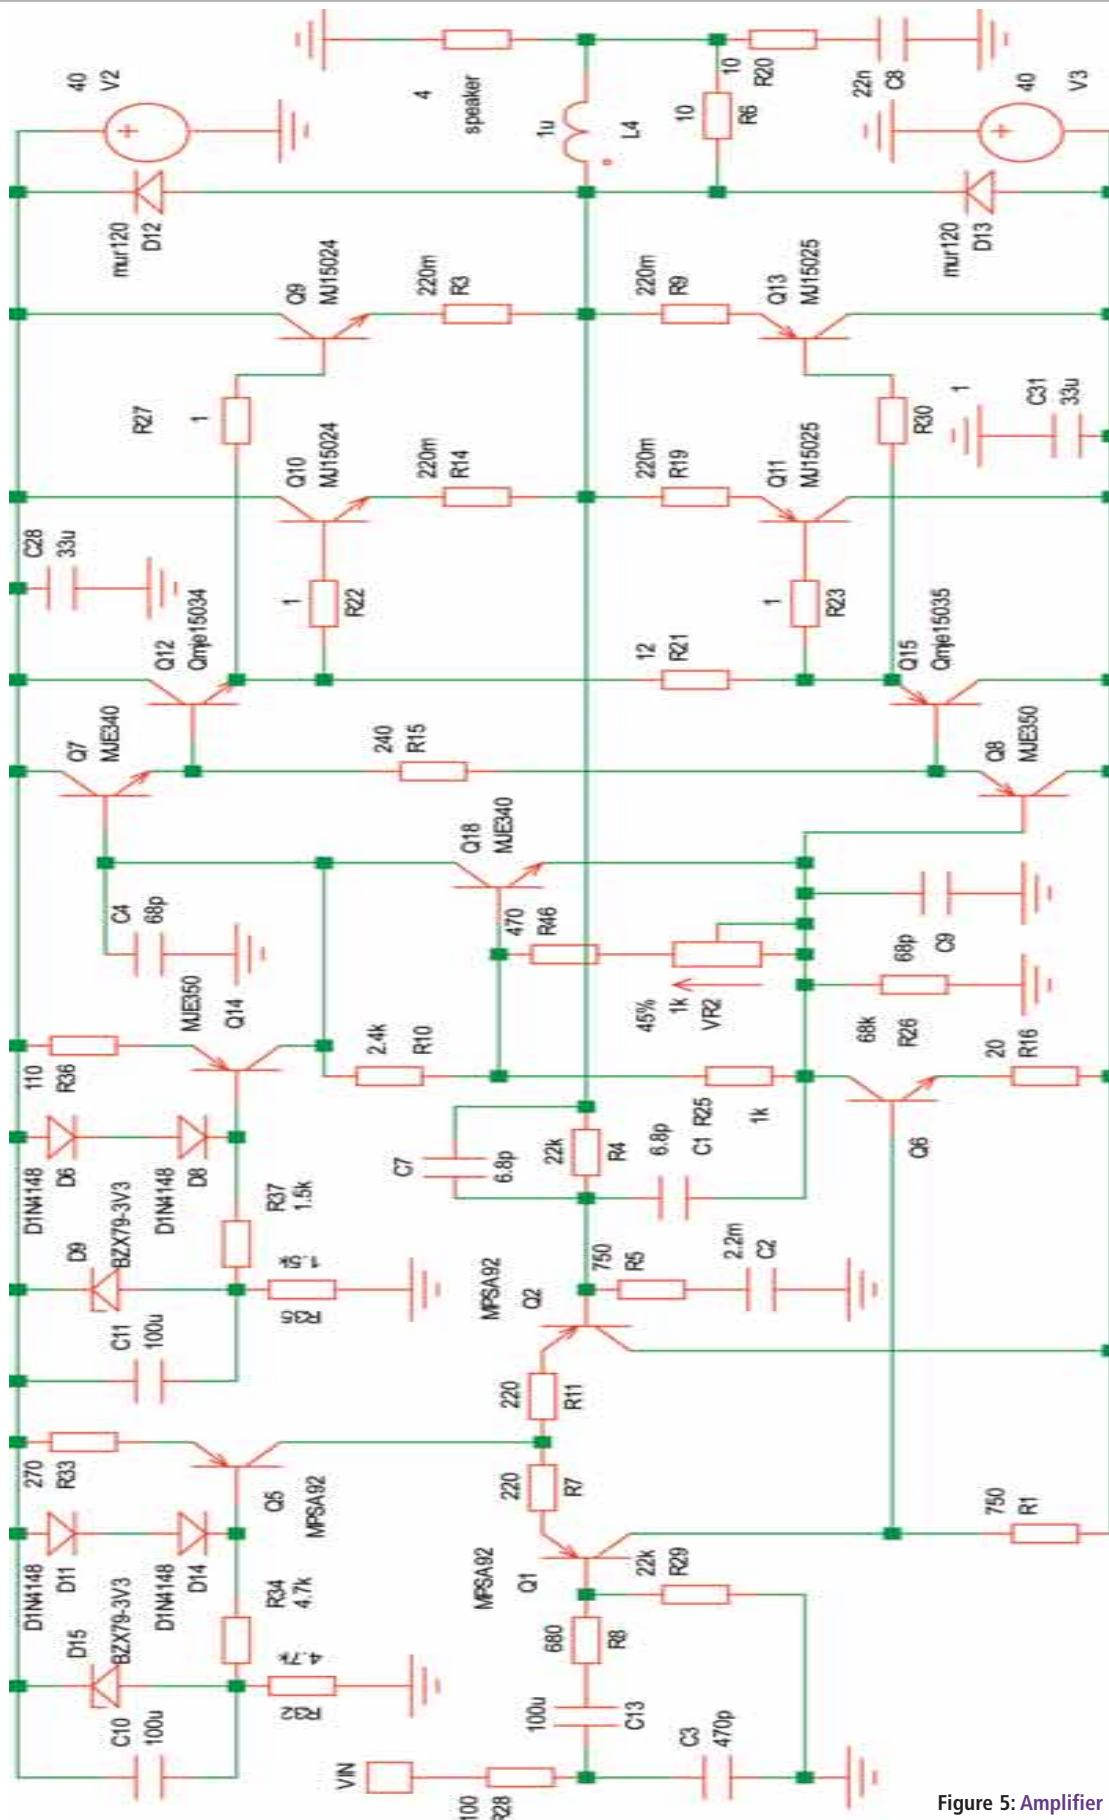
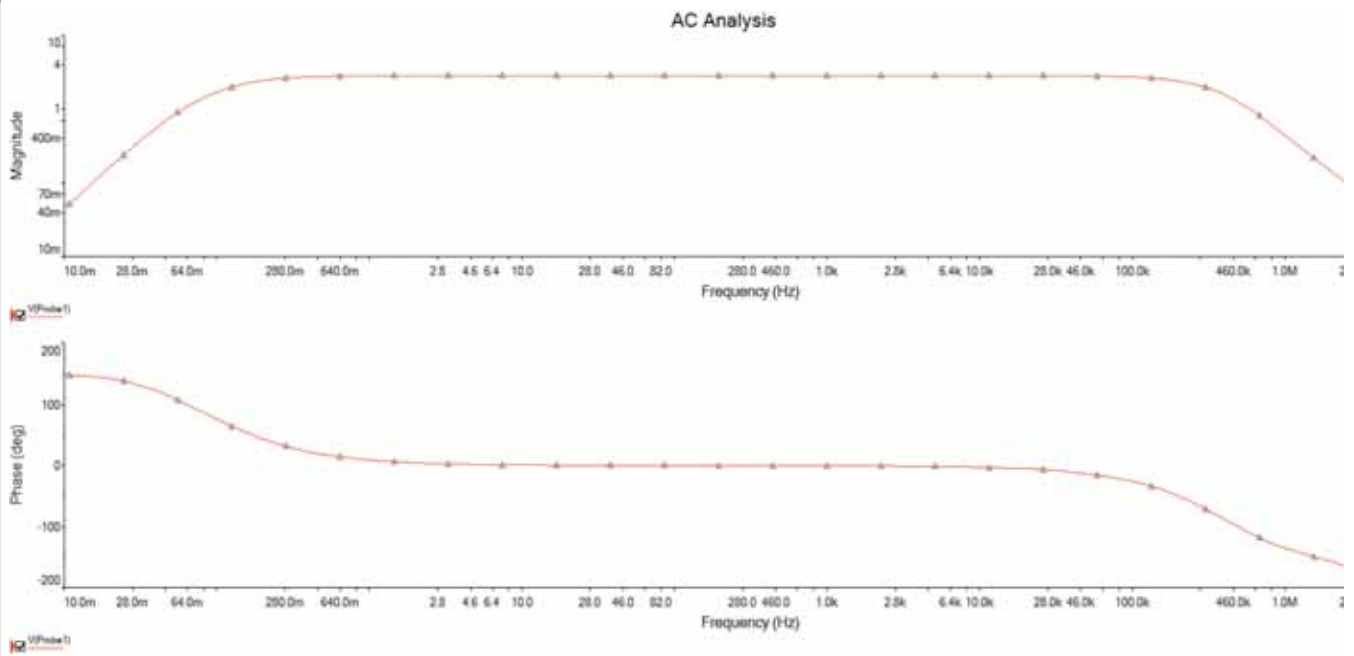
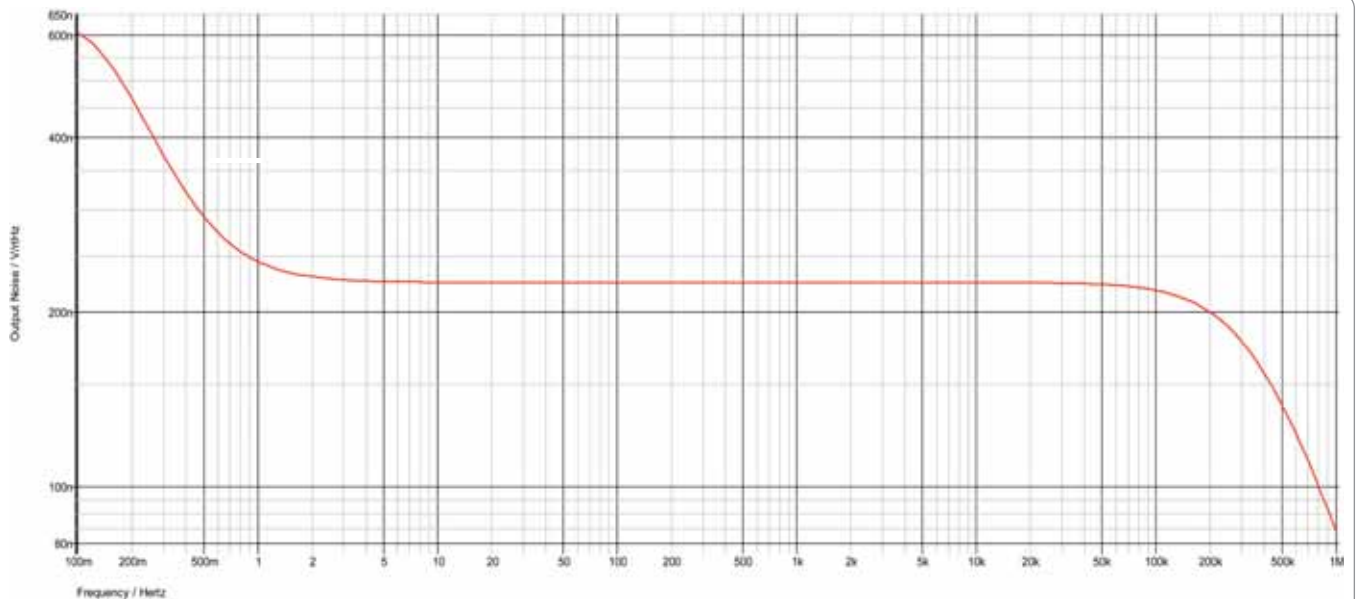

Figure 5: Amplifier schematic
Figure 7: Bandwidth of main amplifier
Figure 8: Noise analysis
C2 in Figure 5 can be scaled down to reduce the phase shift in Figure 7 towards direct current (DC) as well as the increased noise in Figure 8 towards DC.